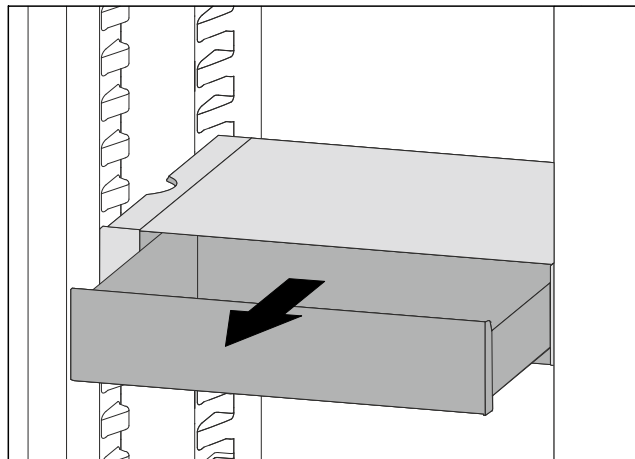

*Fig. 118*
- ▶ Move VarioSafe up or down in the refrigerator compartment until the desired height is reached. *Fig. 118 (2)*
- ▶ Pull VarioSafe forwards until the recesses in the side of the VarioSafe are at the level of the support rib in the refrigerator compartment. *Fig. 118 (1)*